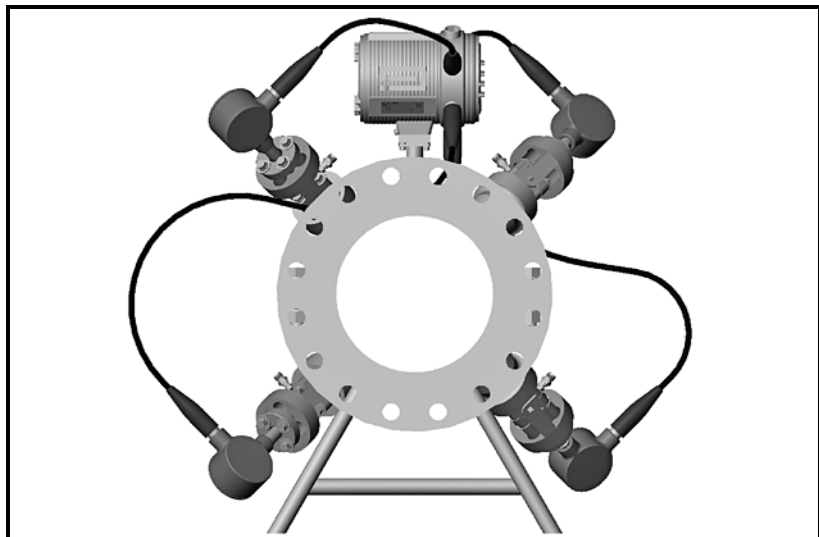

Figure 1-10: Sentinel End View - Mounting Flange
- Make sure the Sentinel is oriented with the flow transmitter in a vertical position at the top (see Figure 1-10 on page 1-13).
3. Align the flange mounting holes (see Figure 1-10 below).